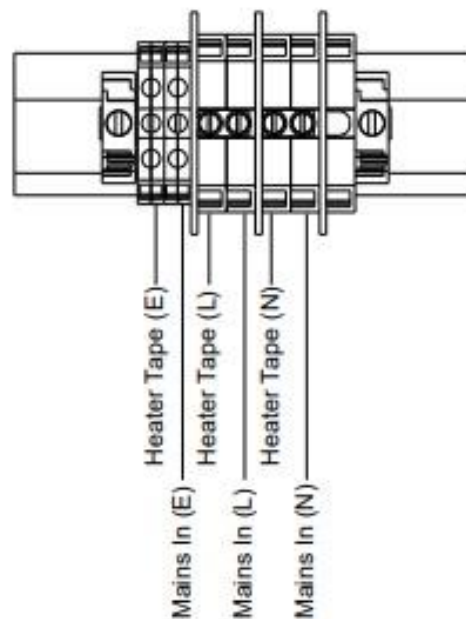

Figure M-4 – Wiring into the Junction Box
2. Connection of the Mains Power is shown in figure M-4